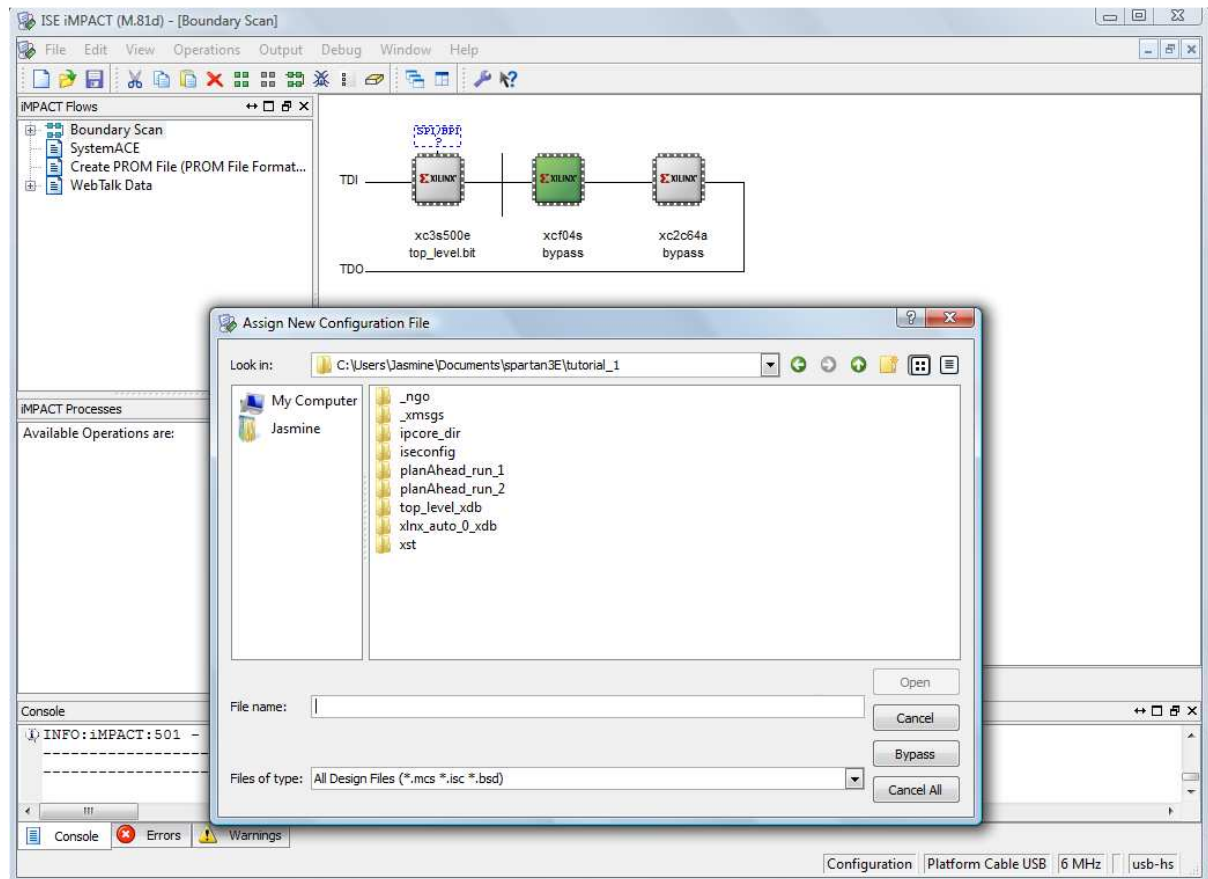

Figure 5.44: iMPACT window, bypassing the xcf04s.
10. The **Assign New Configuration File** window will appear again (Figure 5.44). In this case click **Bypass**. This ensures that the xcf04s is bypassed.